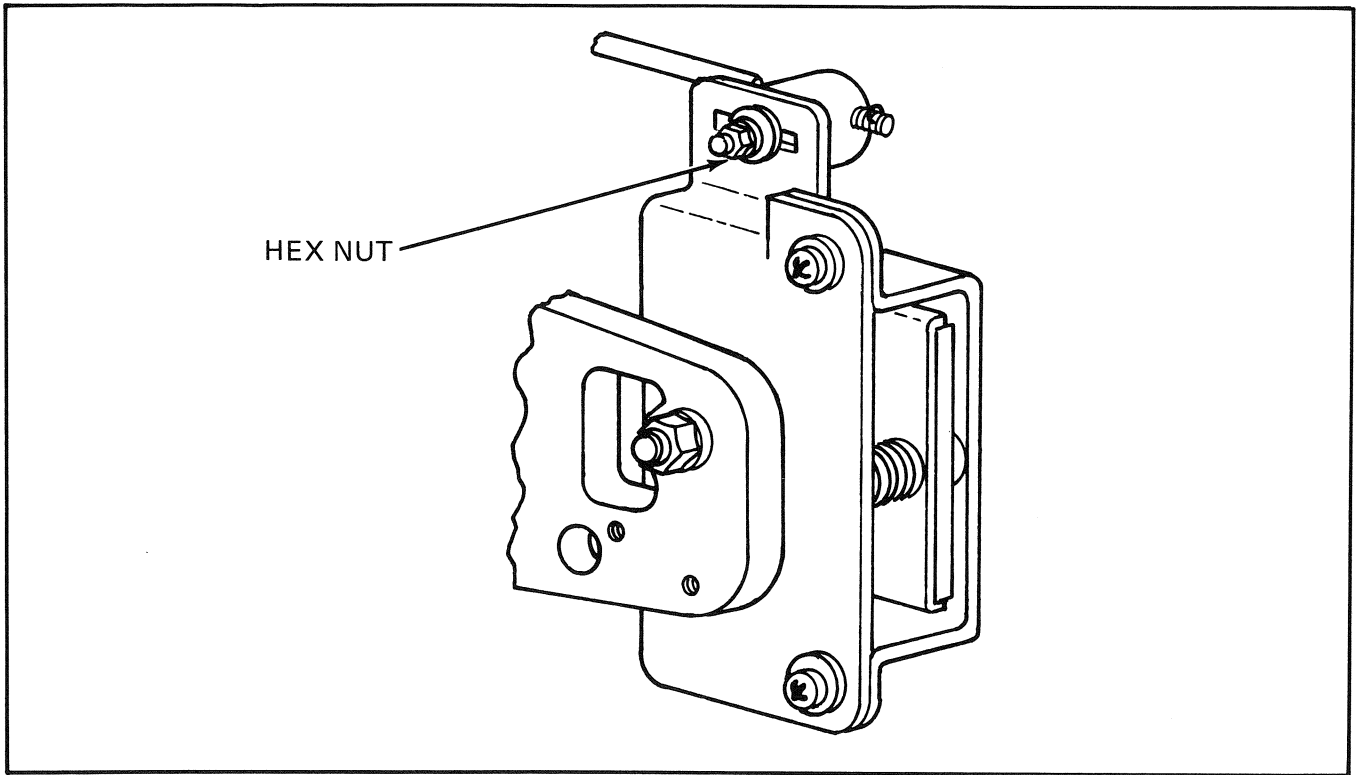

Fig. 4-3
2. Loosen the hex nut 881-626 one full turn. (See figure 4-3.)
between the shoulder and the wire clip on the threads of the framer shaft. (See figure 4-3.)